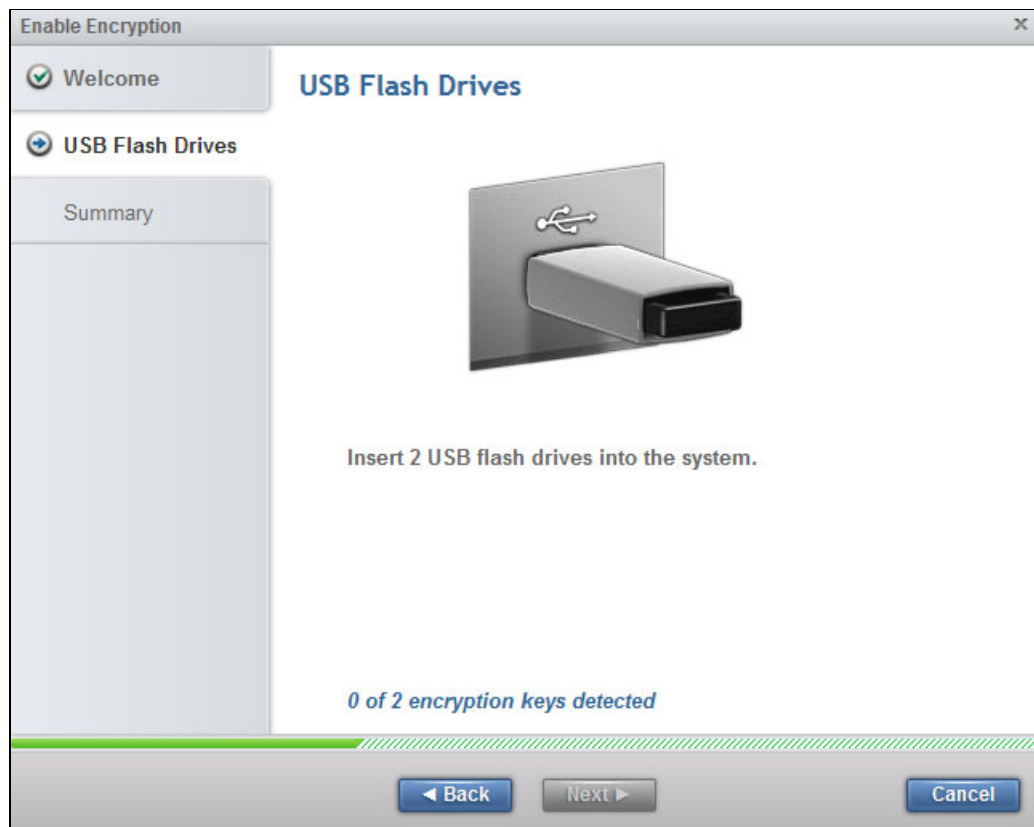

Figure 7-37 Encryption keys writes to USB flash drives
2. Insert two USB flash drives into the FlashSystem 900 controller USB ports and click **Next**. The encryption keys are now generated and stored on both USB keys, and detected (Figure 7-37).